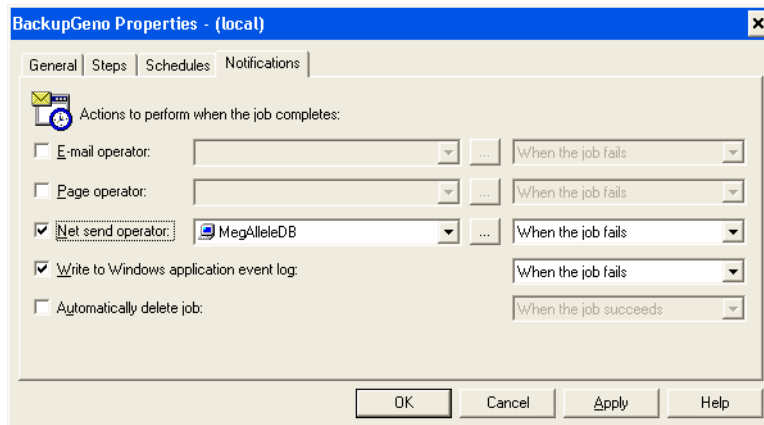

Figure 7.7 BackupGeno Properties Window
8. Select the **Notifications** tab (Figure 7.7).